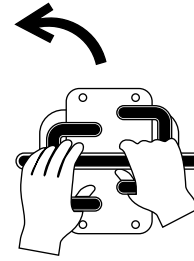

Figure 13
- To turn left, move the right traction control forward (Figure 13).